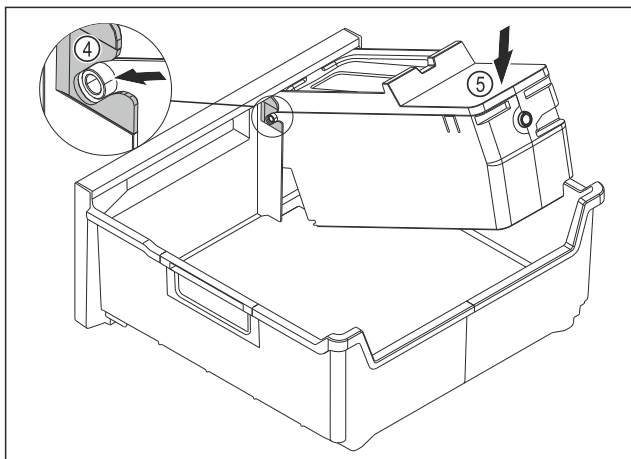

Fig. 91
- ▶ Installing the EasyTwist-Ice body: Push the axes for the EasyTwist-Ice body into the guides Fig. 91 (4).
- ▶ Press the EasyTwist-Ice body Fig. 91 (5) down at the back.